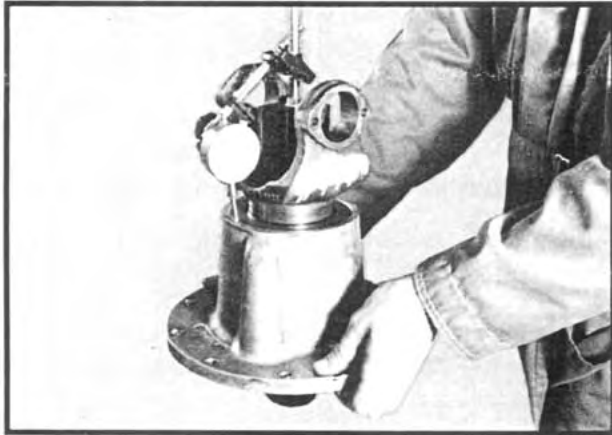

Fig 49
13. Install a dial indicator with a magnetic base as depicted in Figure 49. Lift upward on the carrier assembly and not the shaft end float on the dial indicator. If the end float is not within specification (.003 to .008 in.), it will be necessary to disassemble the shaft by performing Steps 10 and 11 under "LOWER SHAFT DISASSEMBLY – MODELS WITH 33/67 PROPORTIONAL DIFFERENTIAL". Measure the thickness of the original spacer ring and select a new ring to provide end float within specification. See Item 41 on P.13 in the parts manual for a list of available spacer rings. Be sure to check the shaft end float after a new spacer ring is installed.